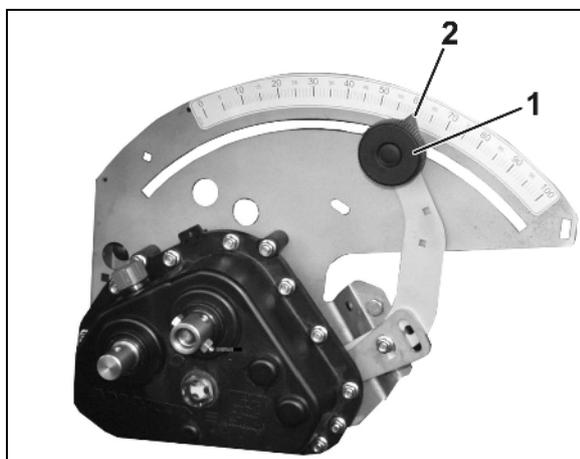

Fig. 96
5. Loosen the locking button (Fig. 96/1) of the gearbox setting lever.
6. Move the pointer of the gearbox setting lever (Fig. 96/2) to one of the following gearbox positions:
7. Tighten the locking button (Fig. 96/1).